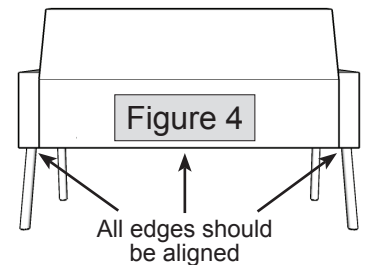

Figure 4
7. When properly connected, bottom edge of back cushion should align with bottom edges of arm frames as shown in figure 4.
10. With all bolts connected but still loose, stand chair upright on a level surface. Align bottom edges of arm frames, back cushion and seat cushion (figure 4) and tighten all bolts securely.